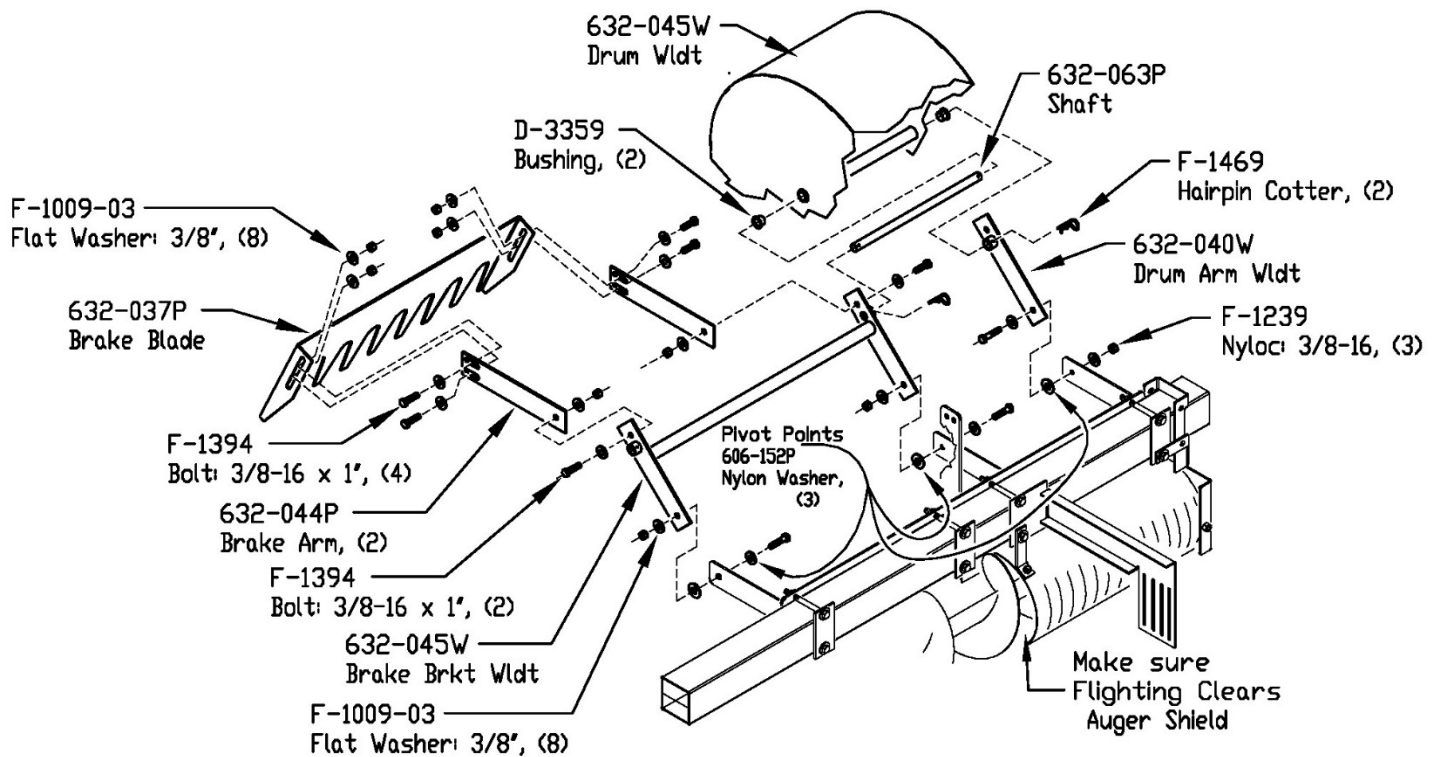

Fig 11.5
**11c. Assemble the Brake and Drum Mounting Arms and Linkages** to the Brake & Drum Mount Bracket as shown in Fig 11.5, use 606-152P Nylon Washers at the Pivot Points.